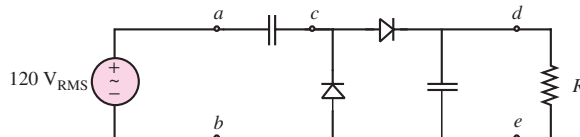

Figure P12.21
12.21 In the DC power supply shown in Figure P12.21, sketch the voltage across a - b , c - a , and d - e , assuming that R is so large as to make any ripple not noticeable.